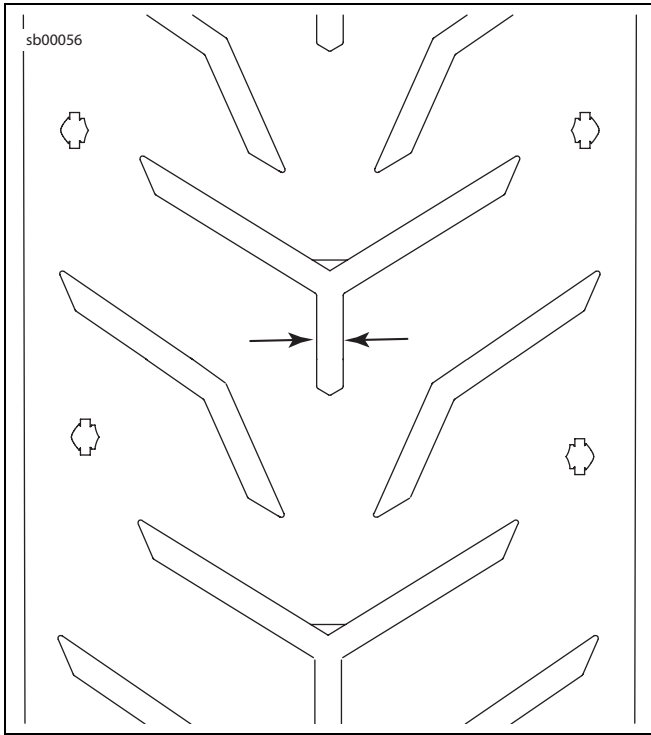

Figure 1. Measurement Location
- See Figure 1. Measure tread depth 1/2 way between the groove branch and the end of the center line groove.